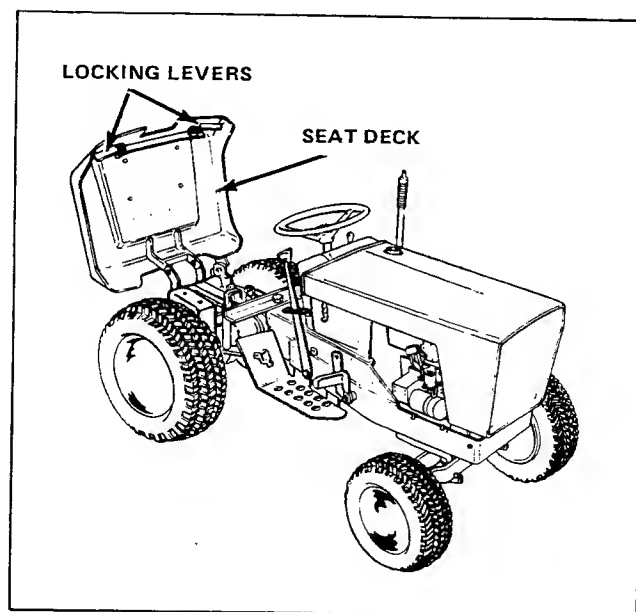

Figure 15. Raising the Seat Deck
The seat deck may be raised to the position shown in figure 15. This will expose many of the transmission and clutch-brake adjustment points. To raise the seat deck, proceed as follows:
1. Reach under the seat deck and locate the locking levers (figure 15).